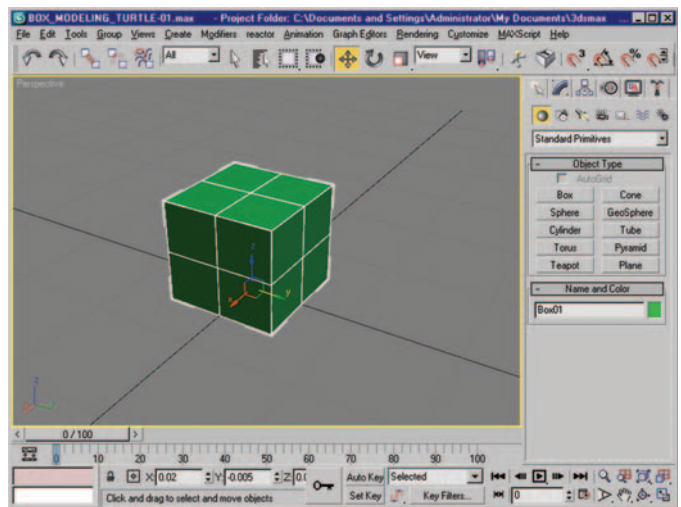

Figure 2.36 Beginning “box” geometry with even proportions and segment count.
1. Because this is called “Box-Modeling,” we are going to start out by creating a box primitive in the top viewport. Once your box is created you can input three equal size values for the length, width, and height, as well as two segments for each (Figure 2.36).